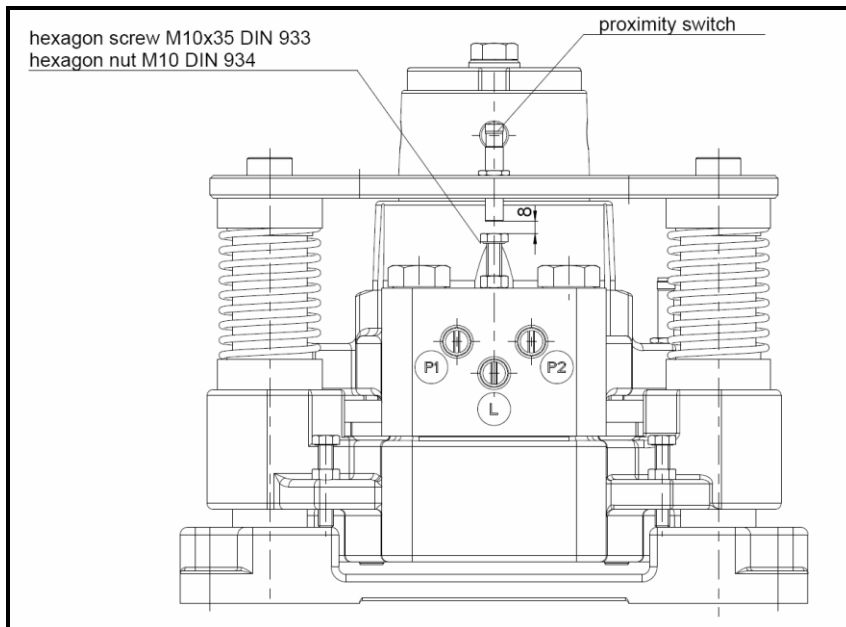

Fig. 12.5
The inductive proximity sensor must be positioned according to Fig.12.5. If the brake pad has wear the distance between the inductive proximity switch and the screw head gets smaller. Once the limits is reached, the inductive proximity emits a signal and the LED on the inductive proximity switch must glow.
- Screw the hexagon screw M10x35 DIN 933 with the hexagon nut M10 DIN 934 into the brake housing according Fig. 12.5